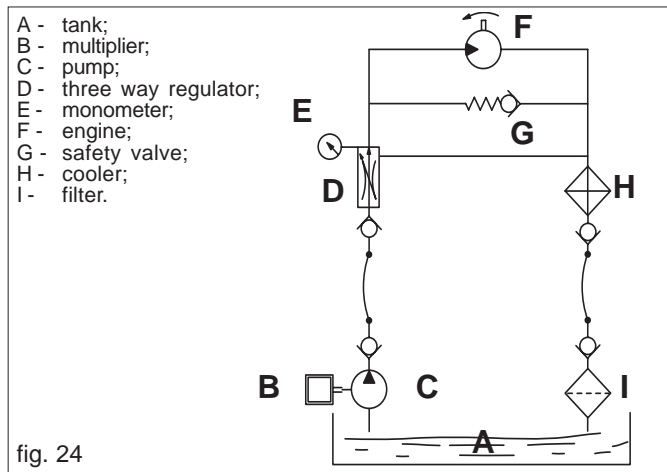

fig. 24
- Oil supply: follow the data in the table in Fig. 24.